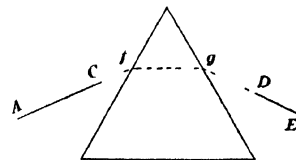

FIG. 96
**I. Path of a beam of light through a prism.** Draw a line  $AC$  (Fig 96) on a page of your notebook. Place the prism on the paper in the position indicated in the figure. Light coming to the prism in the direction  $AC$  will be bent both upon entering and upon leaving the prism. Place a ruler on the paper and adjust it carefully until it is exactly in line with the apparent direction of  $AC$  as seen through the prism. With a sharp pencil draw a line  $DE$  along the edge of the ruler, and trace the outline of the prism on the paper. Remove the prism and extend the lines  $AC$  and  $DE$  until they meet at  $f$  and  $g$ , the lines which represent the prism faces. Then  $AfgE$  will be the path of the light which traverses the prism.